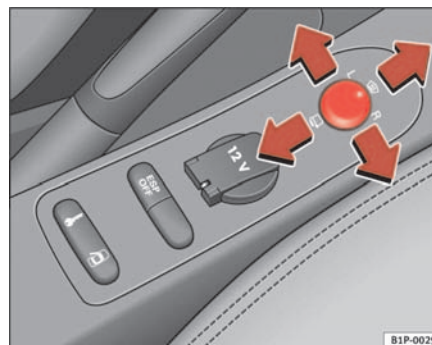

Fig. 86 Exterior mirror control
1. Turn knob ⇒ fig. 86 to position **L** (left exterior mirror). ▶
- Turn the knob forwards to the central position ⇒ page 121, fig. 86  so that the heated rear view mirrors warm up and the heated windscreen* in the wiper blade rest area is activated ⇒ page 117.
- Turn the control ⇒ page 121, fig. 86 to position  to fold in the exterior mirrors. You should always fold in the exterior mirrors if you are driving through an automatic car wash. This will help prevent damage.